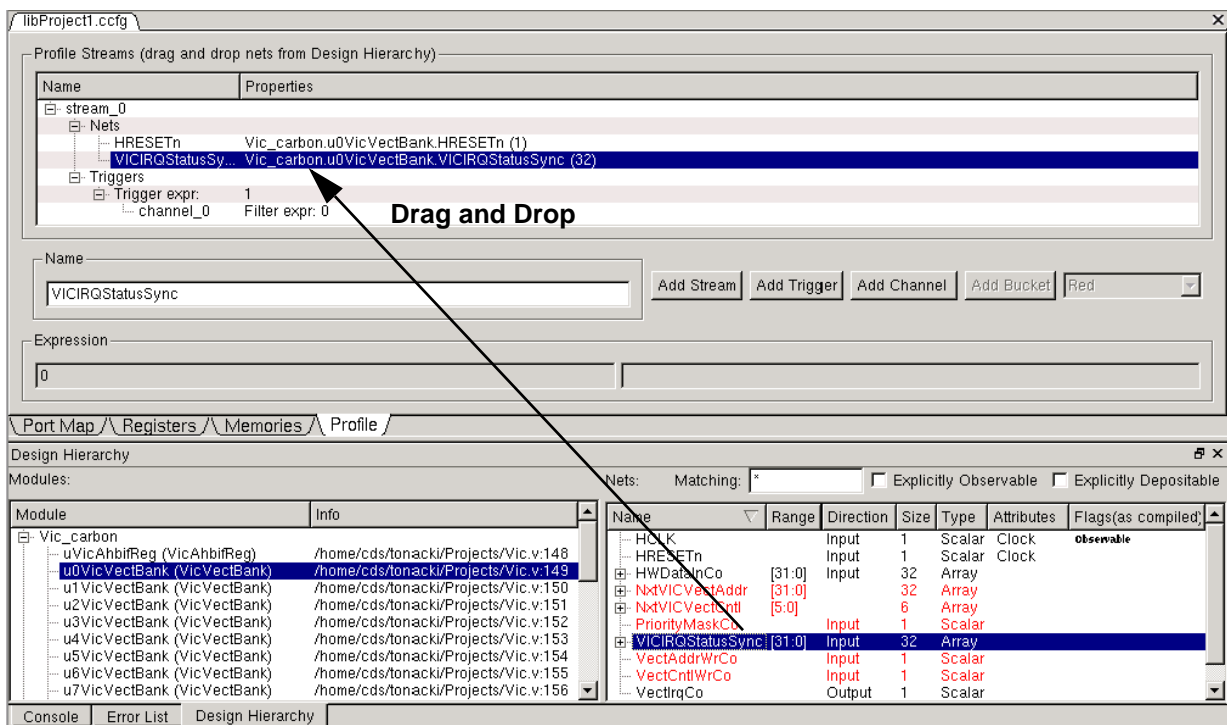

Figure 5-47 Drag Nets to Stream in Profile Tab
- Select nets, one at a time, from the *Nets* list, and keeping the left mouse button depressed, drag-and-drop the nets from the Design Hierarchy to the *Nets* section of the desired stream (see Figure 5-47).